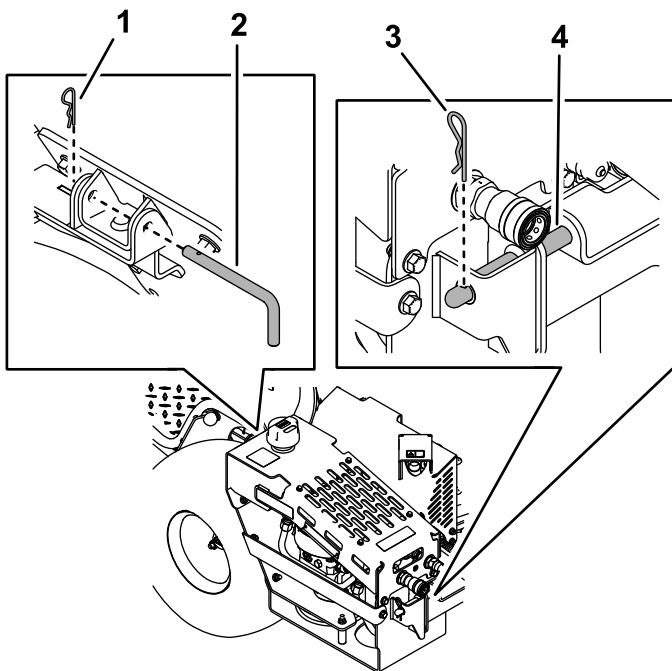

Figure 5
5. Install the high-flow assembly onto the front and rear brackets, adjusting the front bracket as necessary. Secure the assembly to rear bracket using the small hairpin cotter and latch pin, and secure it on the mount pin of the front bracket using the large hairpin cotter (Figure 5).